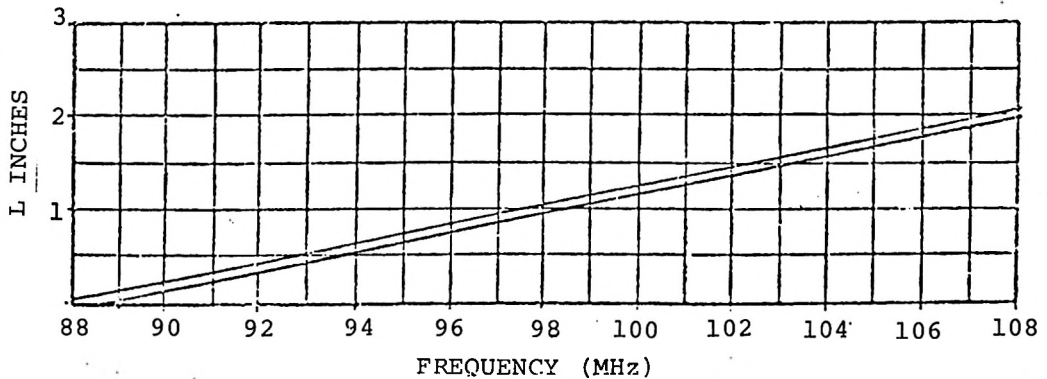

Figure 5-3. PA Neutralizing Adjustment
- e. Adjust the pa neutralization bar to the desired frequency in accordance with the graph in figure 5-3.
- e. Refer to figure 5-3 and adjust the screen sliders, LN1 and LN2. The sliders should not require an adjustment greater than  $\pm 1/4$  inch from the initial setting. (A setting on the plus side is preferred.)